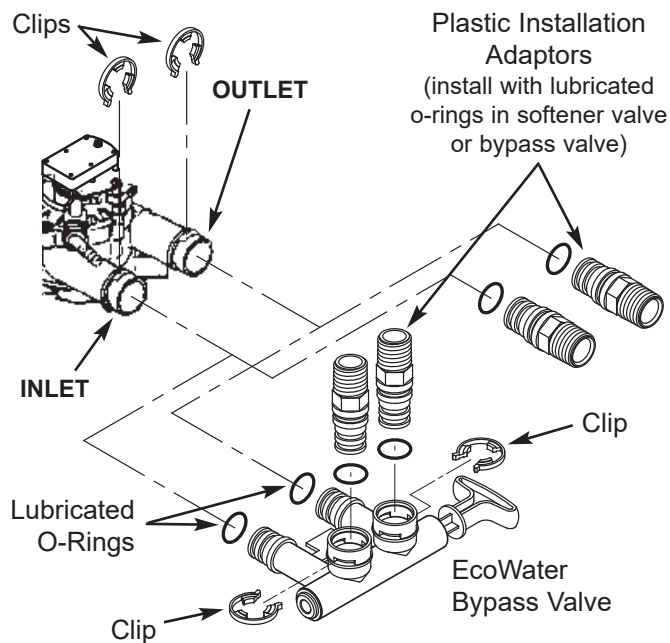

FIG. 7
- If installing a single bypass valve, push the bypass valve, with lubricated o-ring seals in place, into the valve inlet and outlet ports (See Figure 7).
- If installing a 3-valve bypass system, slide plastic installation adaptors, with lubricated o-ring seals in place, into the valve inlet and outlet ports, respectively (See Figure 7).